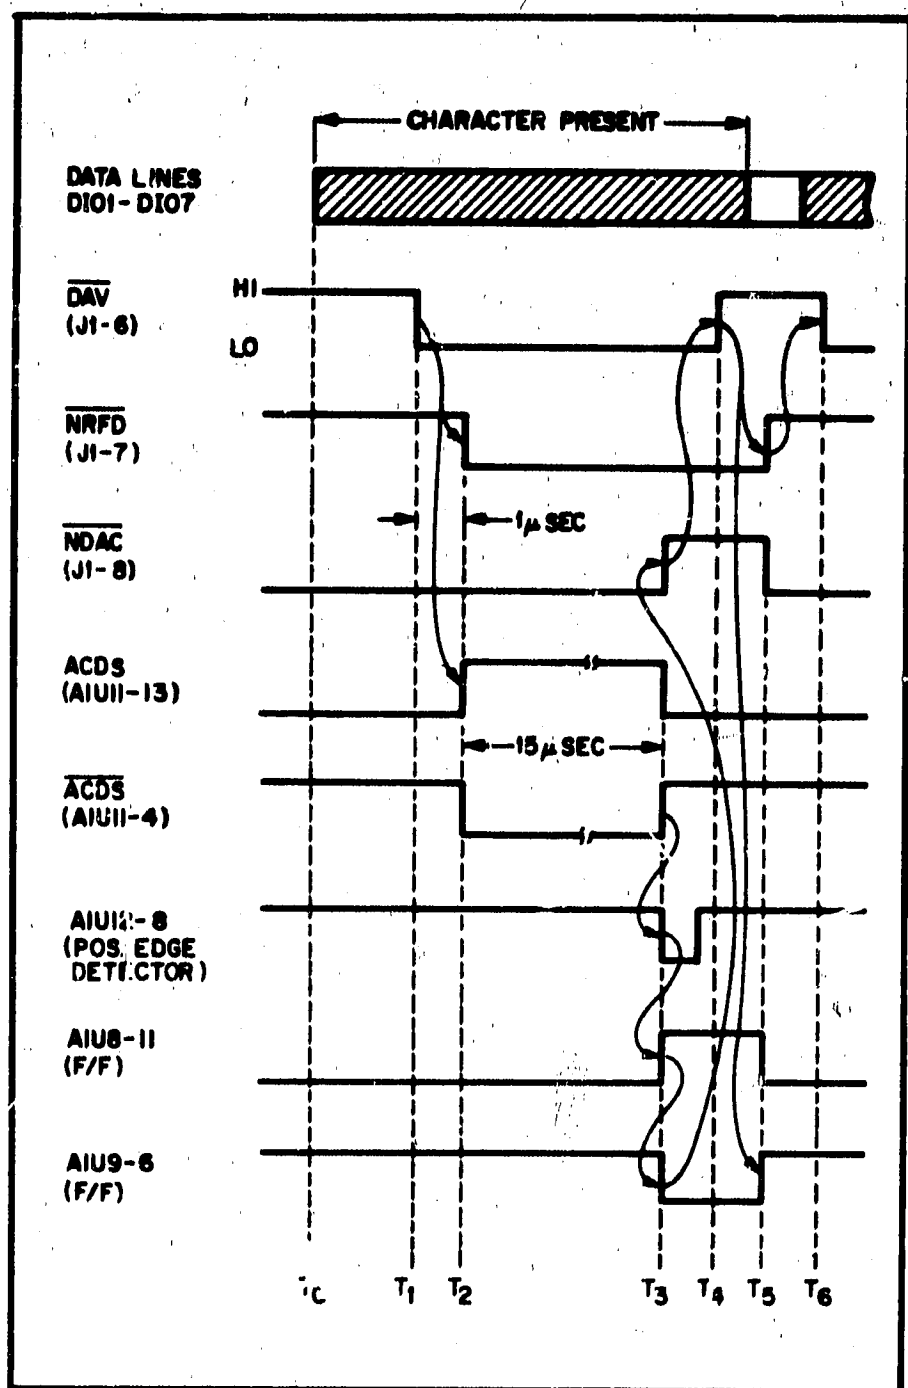
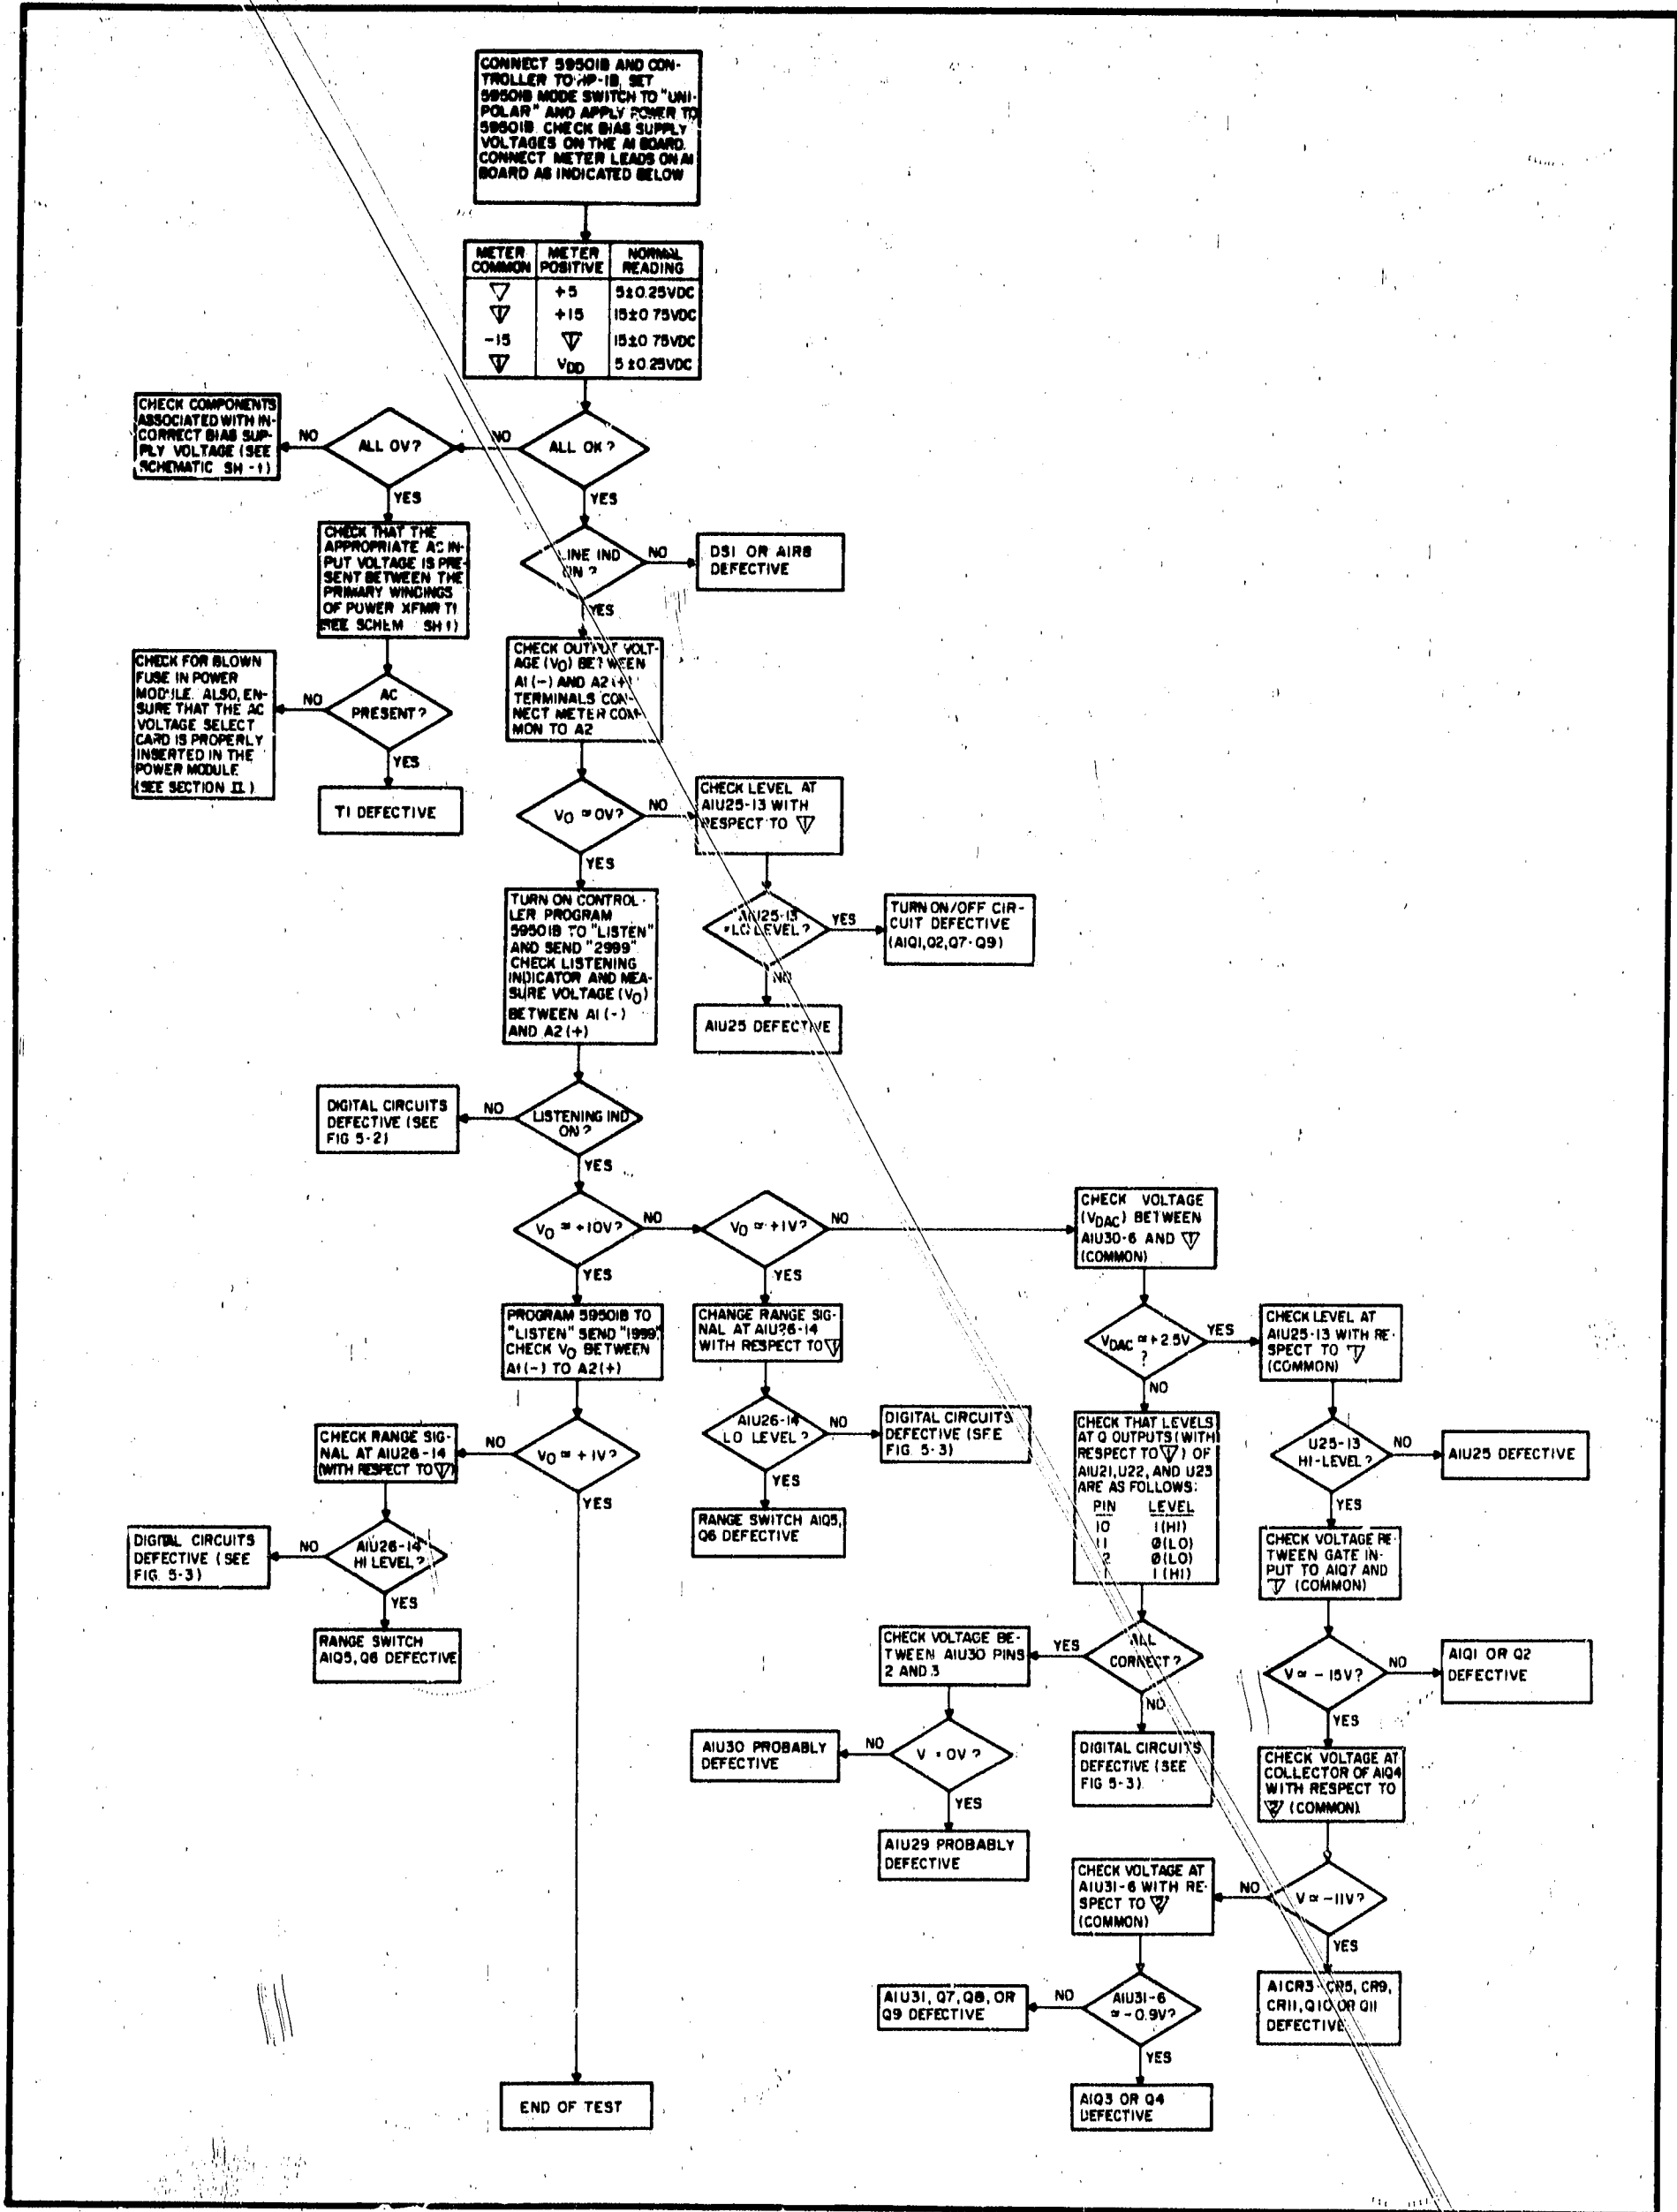
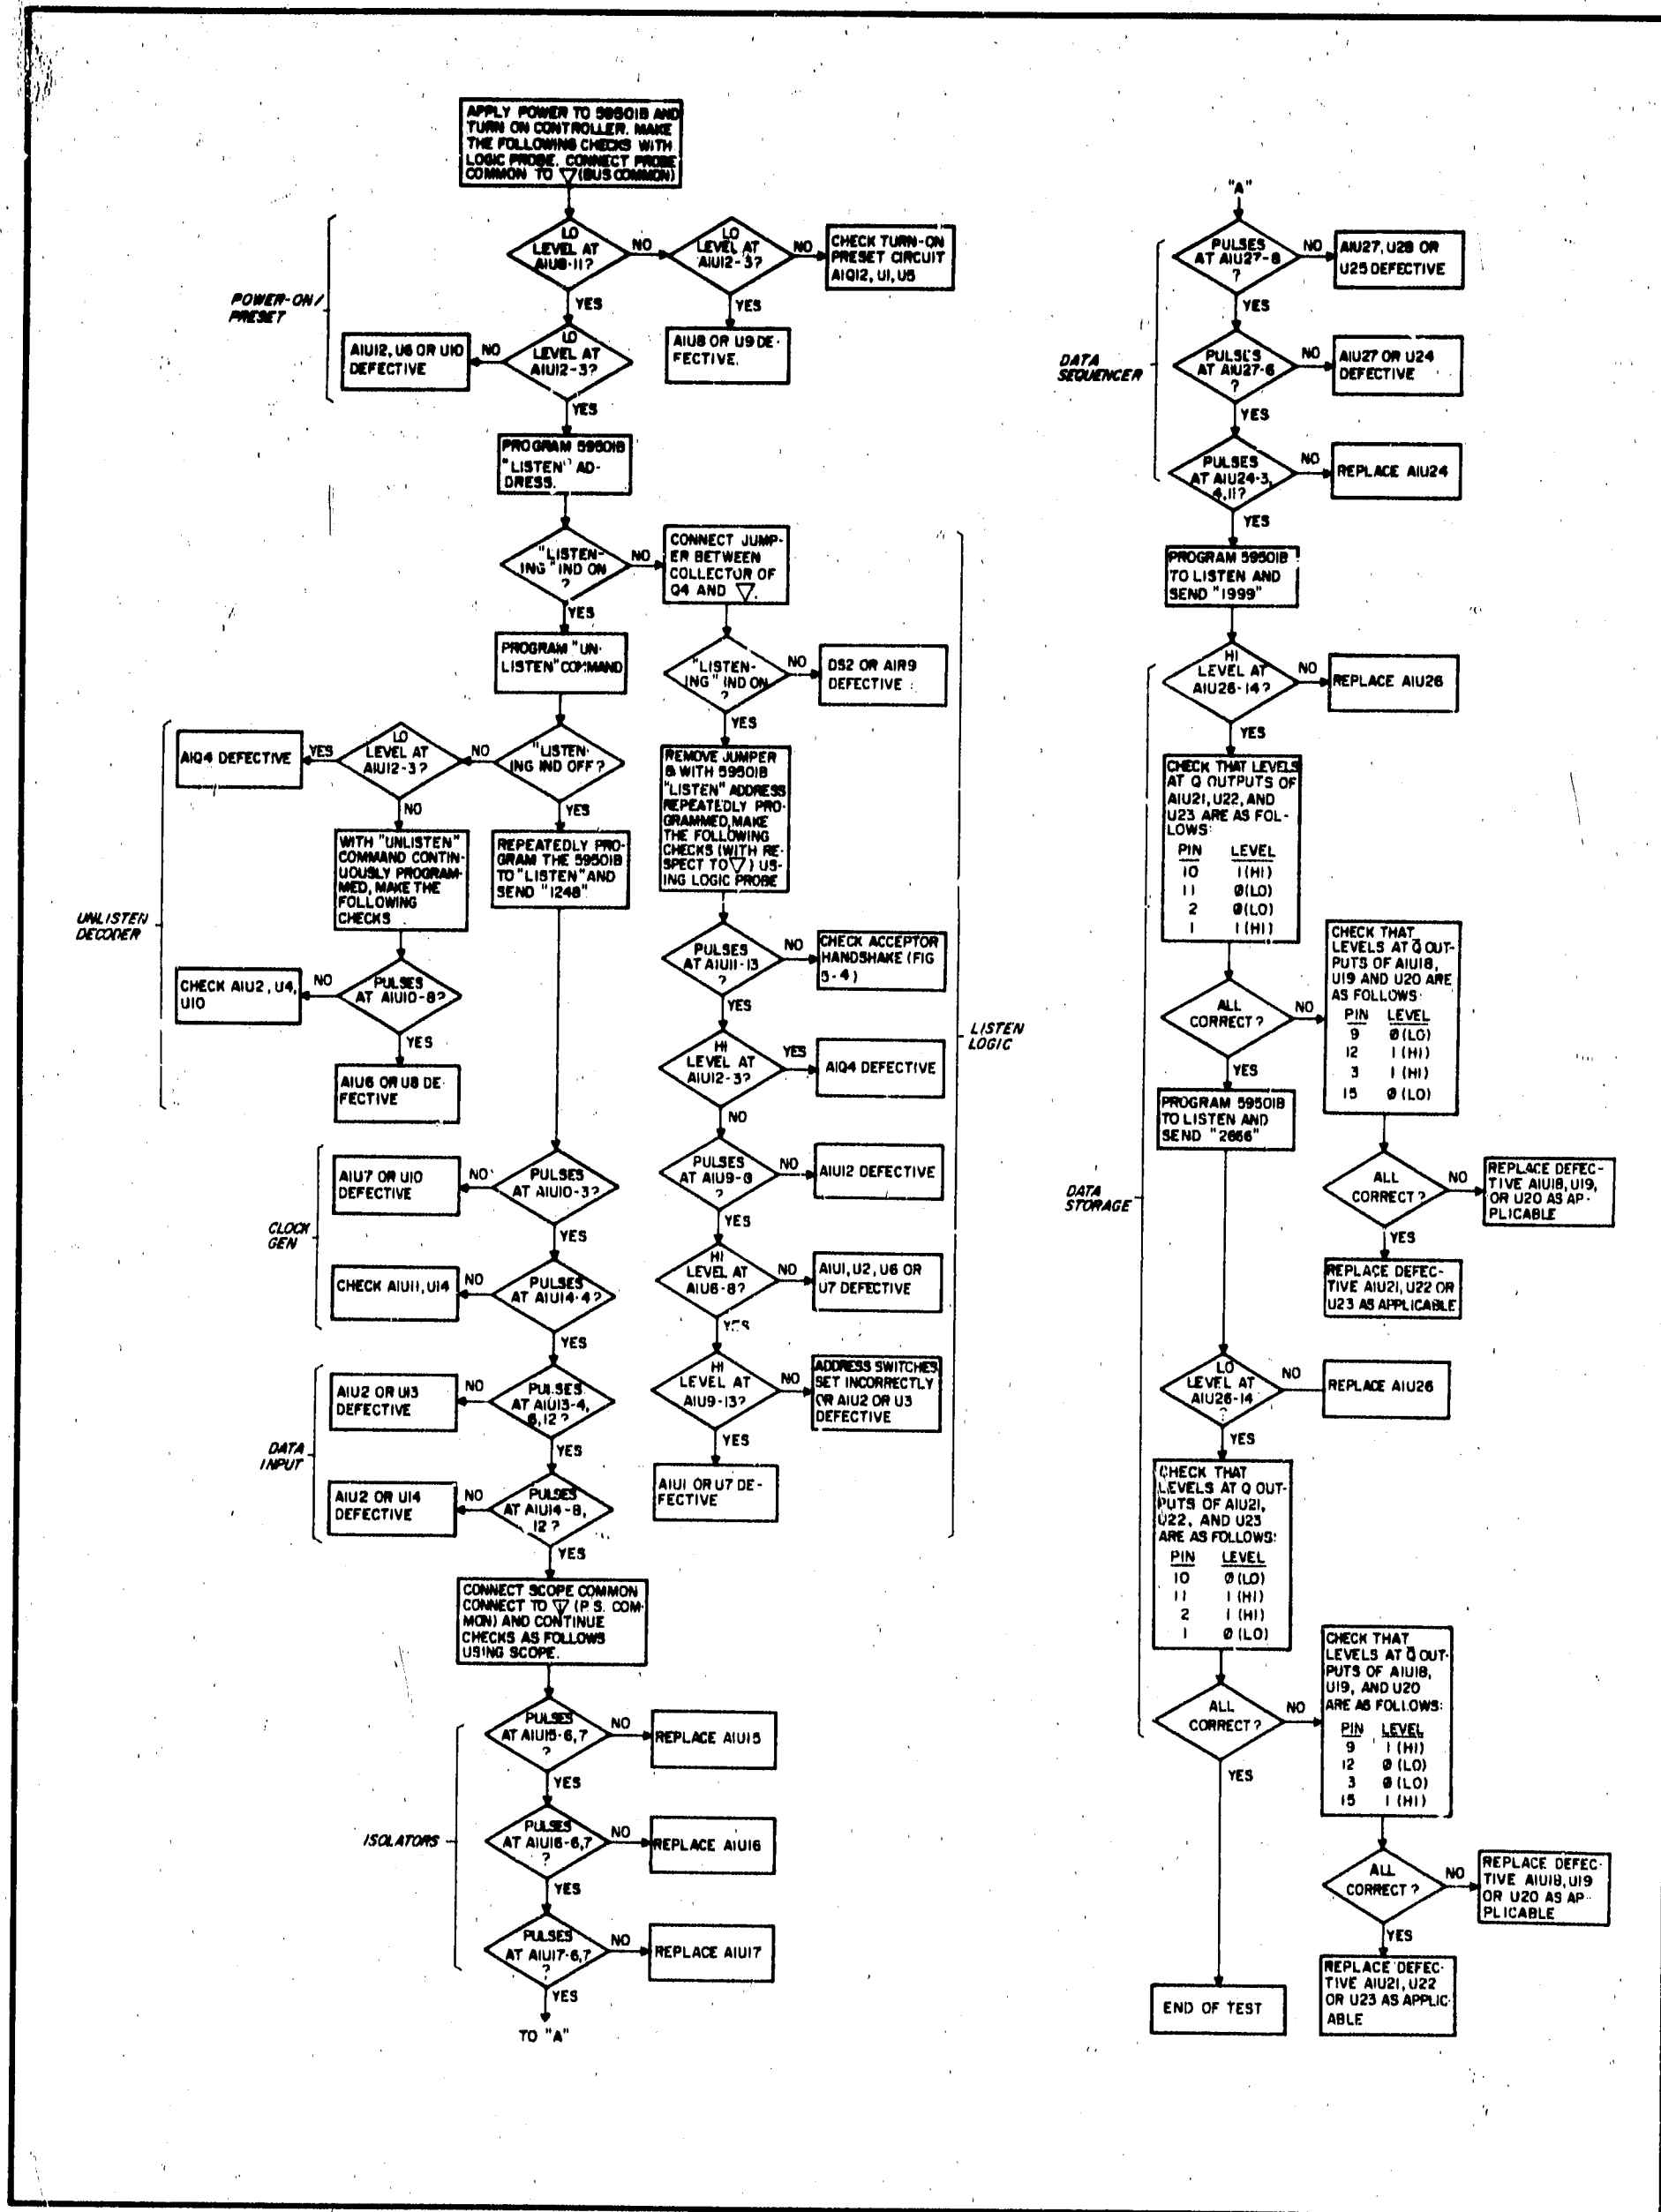
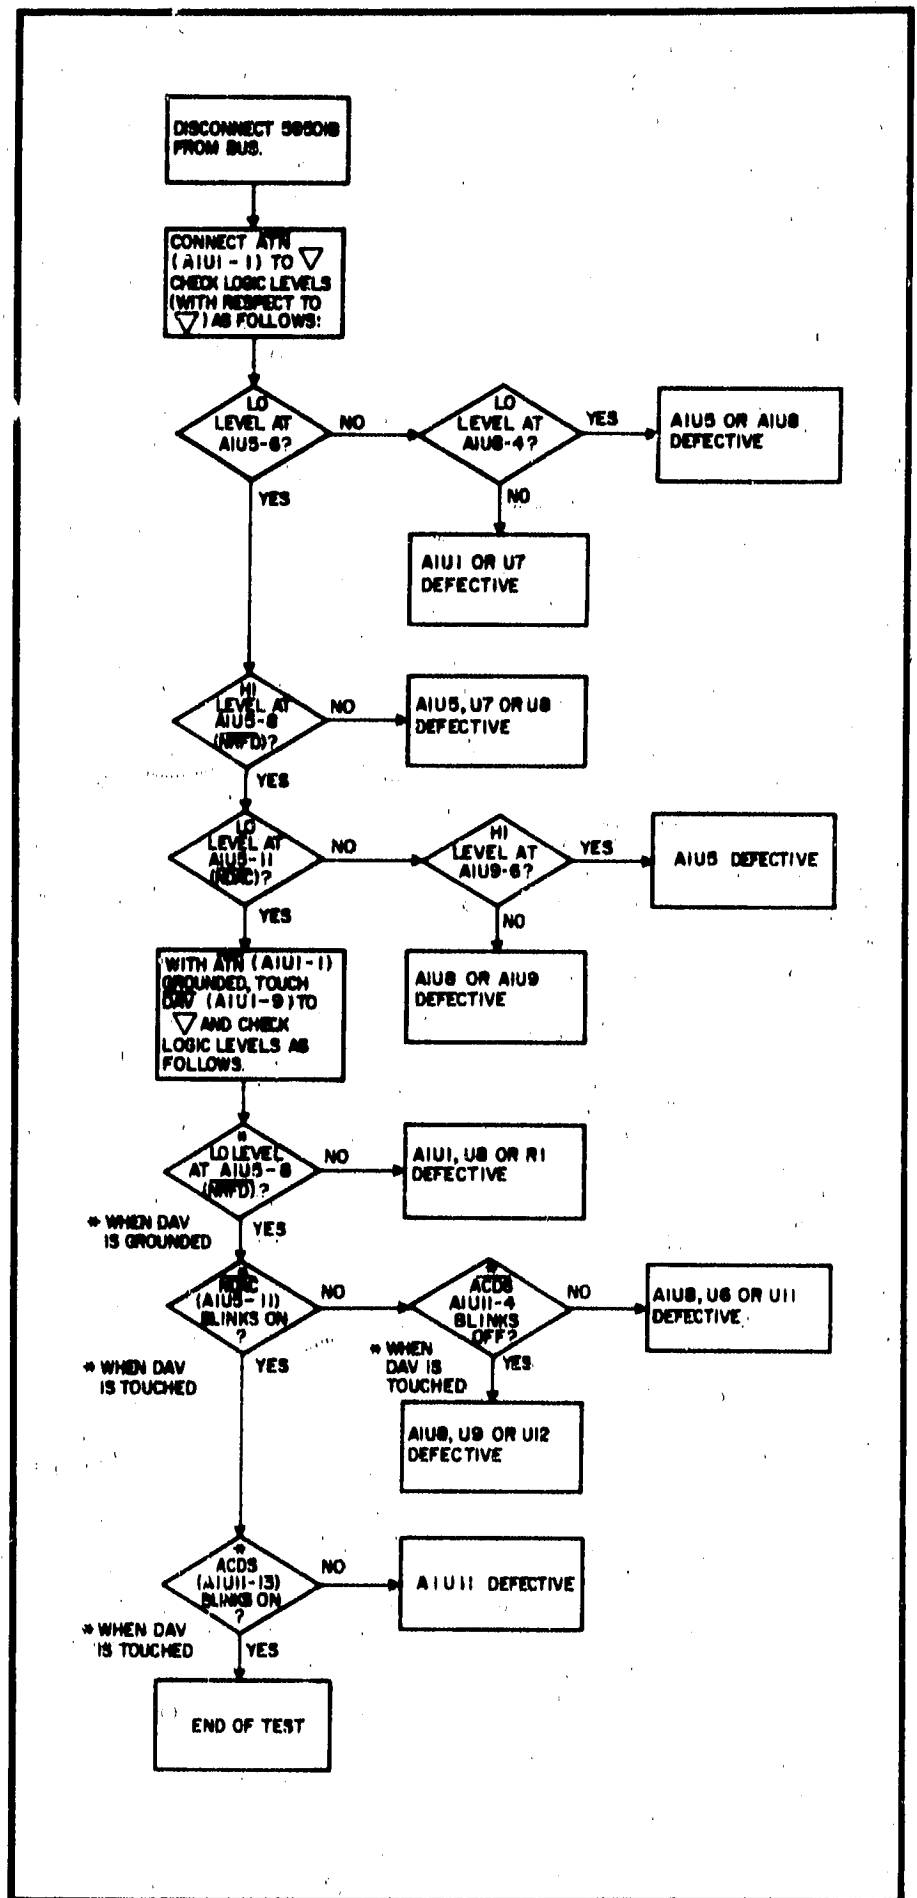

Figure 4-2. Acceptor Handshake Signals, Timing Diagram
Figure 5-2. Overall Troubleshooting Procedures, Flow Chart
Figure 5-3. Digital Circuits Troubleshooting, Flow Chart
Figure 5-4. Acceptor Handshake Circuits Troubleshooting, Flow Chart
data character received on the bus data lines  $\overline{\text{DI01-DI07}}$ . Unrecognized command characters (e. g., talk address) will be ignored but the handshake cycle between the controller and the 59501B will occur anyway. The 3-wire handshake lines are designated  $\overline{\text{DAV}}$  (data valid),  $\overline{\text{NRFD}}$  (not ready for data), and  $\overline{\text{NDAC}}$  (data not accepted). The acceptor handshake circuit is enabled when the bus is in the command mode ( $\overline{\text{ATN}}$  is LO) or if the 59501B is in the listen mode (listen flip-flop set) and  $\overline{\text{ATN}}$  is HI (data mode). For either of the above conditions, the output of NAND gate U8-3 goes HI and NAND gate U5-6 goes LO enabling the acceptor handshake circuits. Figure 4-2 illustrates the 3-wire handshake cycle timing sequence for each character received by the 59501B in the command and data modes.
5-10 The troubleshooting procedures (Figures 5-2 through 5-4) assume that the controller is operating properly and that a malfunction exists in the 59501B. Before attempting to troubleshoot the 59501B, ensure that the fault was not caused by a programming error. Also, it is recommended that the reader review the circuit descriptions provided in Section IV. A good understanding of circuit operation will aid in troubleshooting. In order to troubleshoot the 59501B, the bottom cover must be removed.
**5-11 Overall Troubleshooting.** The overall troubleshooting procedures given in Figure 5-2 isolate a malfunction to the analog or digital sections of the 59501B. Analog circuit malfunctions are isolated to the component level. Additional troubleshooting flow charts (Figures 5-3 and 5-4) are provided for digital circuit malfunctions.
**5-12** The procedures given in Figure 5-2 first check the bias supply voltages to ensure that these voltages are correct before continuing with the troubleshooting. If the supply voltages are correct, the procedures continue to check if a malfunction is present in the analog or digital portions of the 59501B. If a malfunction is not detected, review the programming and operating instructions provided in Section III to check if the fault was caused by a programming or operating error.
**5-13 Digital Circuits Troubleshooting.** The digital circuits troubleshooting procedures given in Figure 5-3 isolate a malfunction to components within the circuits listed below or to the acceptor handshake circuit. A separate flow chart (Figure 5-4) is provided to troubleshoot the acceptor handshake circuit. Figure 5-3 checks the digital circuits in the following sequence:
**5-14 Acceptor Handshake Troubleshooting.** Figure 5-4 provides a static check of the acceptor handshake circuit. However, it is possible to have a condition where a faulty circuit would not be detected by performing these checks. If a timing problem is suspected, the acceptor handshake circuit must be checked dynamically. A dynamic test can be made by continuously programming the 59501B to "listen" and observing the handshake signals on an oscilloscope. The handshake cycle timing relationships are shown in Figure 4-2.